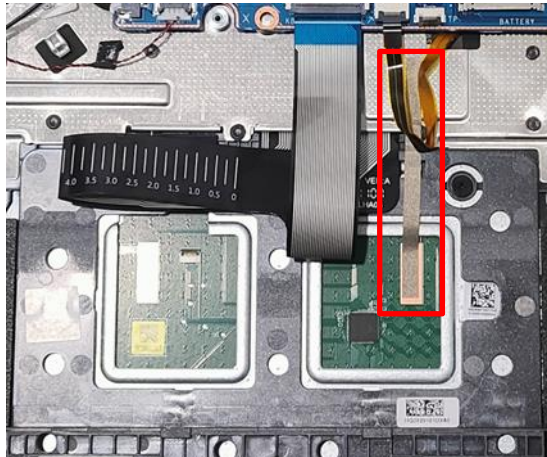

Figure 3-83. Replacing the Touchpad Module
4. Attach the conductive tape onto the touchpad module. Make sure the conductive tape is properly aligned and placed onto its slot highlighted by the yellow and green lines as shown in Figure 3-83.